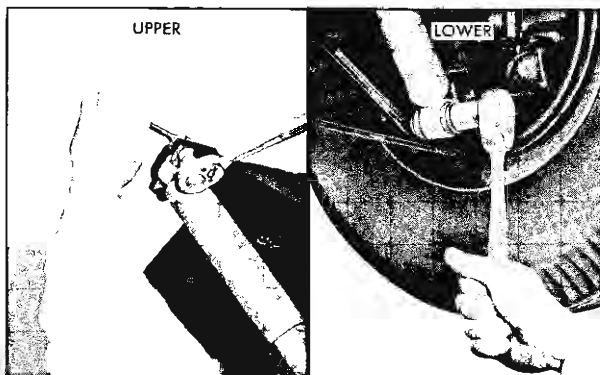

Fig. 8—Removing or Installing Rear Shock Absorber
1. Remove lower attaching bolt, lockwasher and spacer (fig. 8).
2. Remove upper two attaching nuts, bolts and washers (fig. 8).
2. Install Tool J-7063 to the anchor pin and enter into lower control arm. Attach Tool J-2619 and drive into place, keeping the two chalk marks in alignment. Refer to Figure 8 for proper installed position.